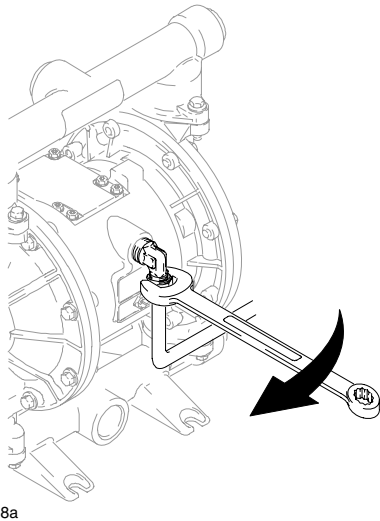

Fig. 10
3. Disconnect air lines. Fig. 10.